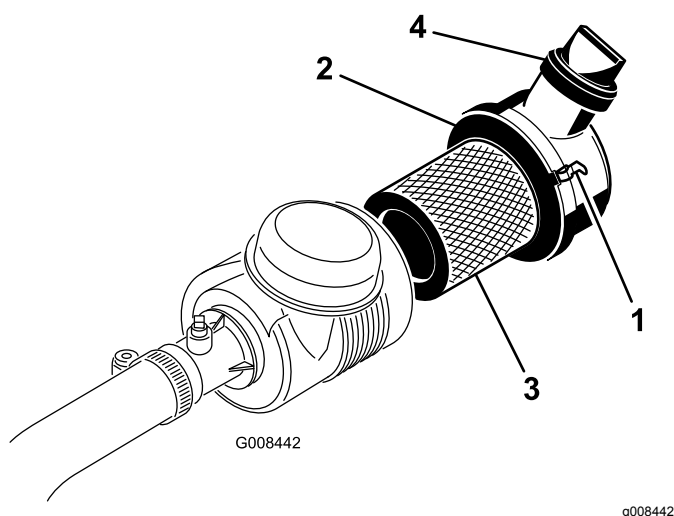

Figure 38
1. Release the latches securing the air-cleaner cover to the air-cleaner body (Figure 38).
7. Install the cover and secure the latches (Figure 38).